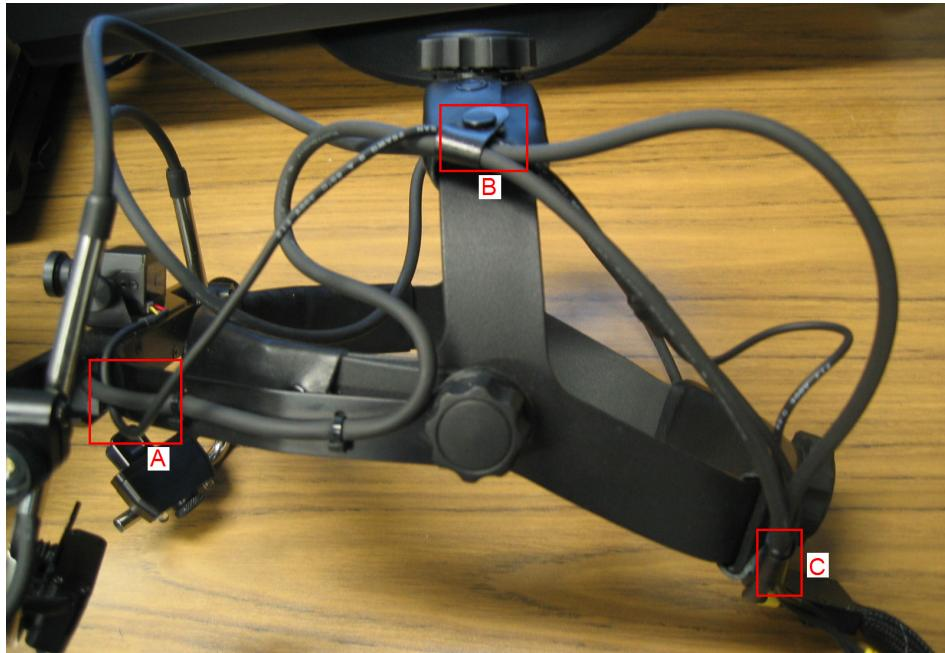

Figure 3-3: Dress the Scene Camera Cables
- Dress the cables of the scene camera with buttons on the headband frames as illustrated in Figure 3-3. Wire the scene camera cable between the headband frame and head camera cable (see A). Undo buttons B and C, put the scene camera cable through, and fasten the button back.